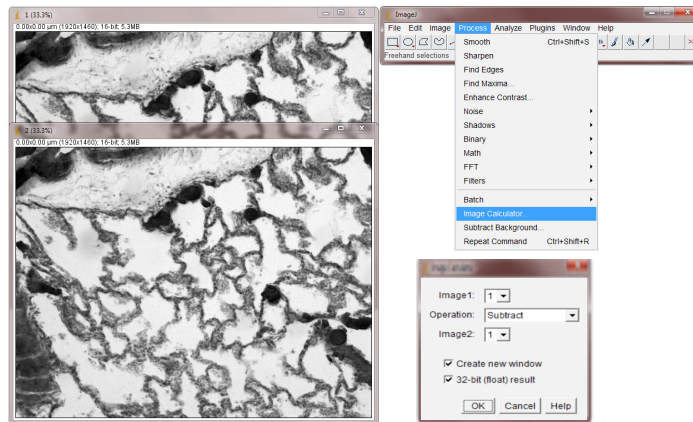

Figure 6
4. Calculate the difference between the two images by selecting Image Calculator from the Analyze menu. Select the two frames and Subtract, you will need to float the result. Press OK to generate the diff image (Figure 6).